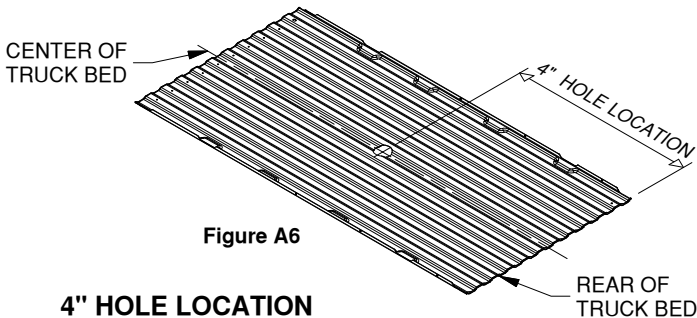

Figure A6
- 11. Mark the 4" hole location.** Using a tape measure hooked over the rear edge of the bed (at tailgate end), measure the location for the hole as shown in Figure A6. Next, locate the center of the bed by measuring the distance between the wheel wells and dividing by two. The center of the hole will be at the intersection of the center of the bed and the first distance measured.